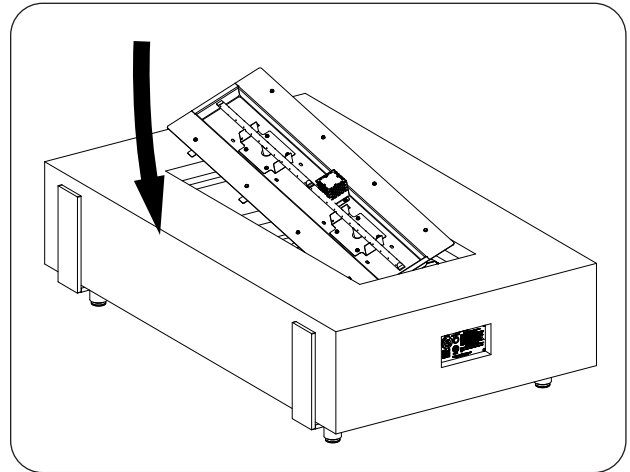

Fig. 33-2 Lower burner into unit
2. Carefully lower the burner down into the pit housing (see Fig. 33-2).